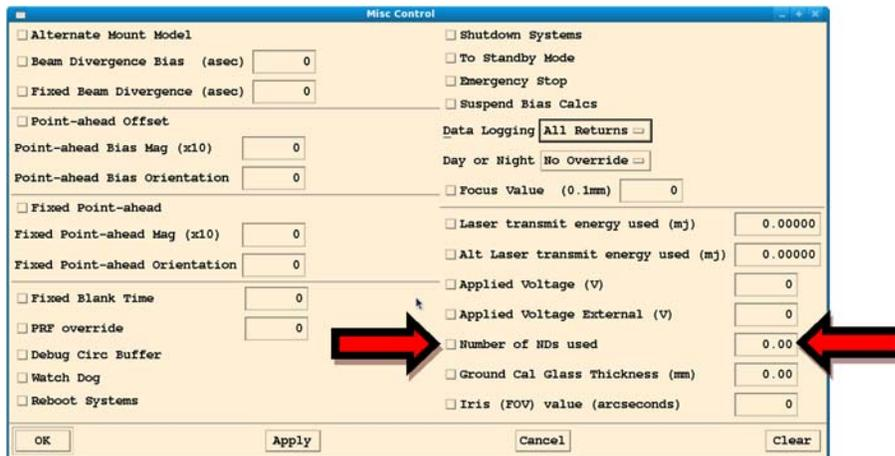

Figure 8-14: The Misc Control window showing All Returns selected
1. **Remove ND’s using the Rotary ND wheels (Figure 8-14)**